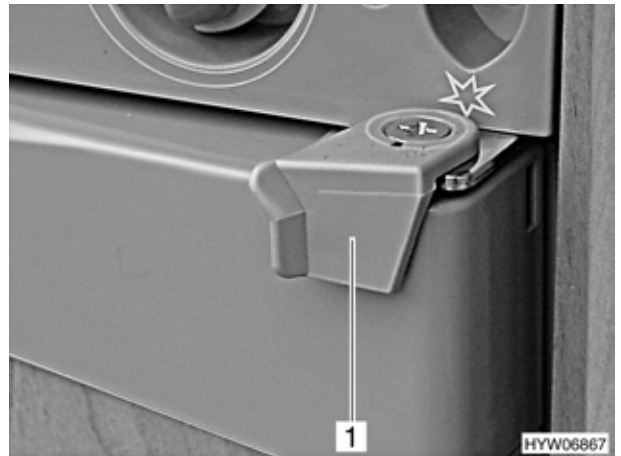

Fig. 135 Refrigerator door lock, closed (variant 1)
- Rotate lock (Fig. 135,1) towards the outside.